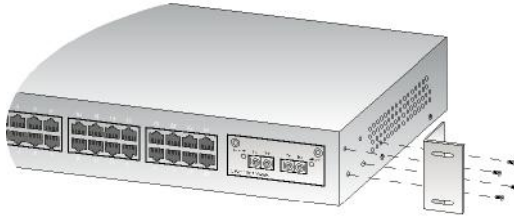

Figure 6.1 Secure brackets onto CompeX SXP2224WM
1. Position one bracket to align with the holes on one side of CompeX SXP2224WM and secure it with the smaller bracket screws (3mm diameter) as shown in Figure 6.1. Then attach the other bracket to another side of it.